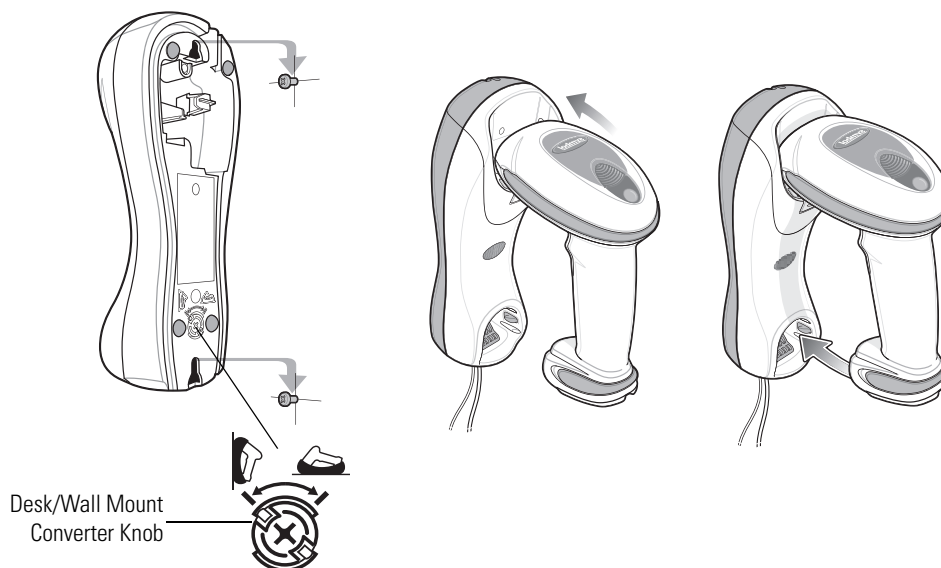

Figure 1-9. Vertical Mount - Inserting the Scanner in the Cradle
3. Ensure the desk/wall mount converter knob is in the position shown in Figure 1-9.